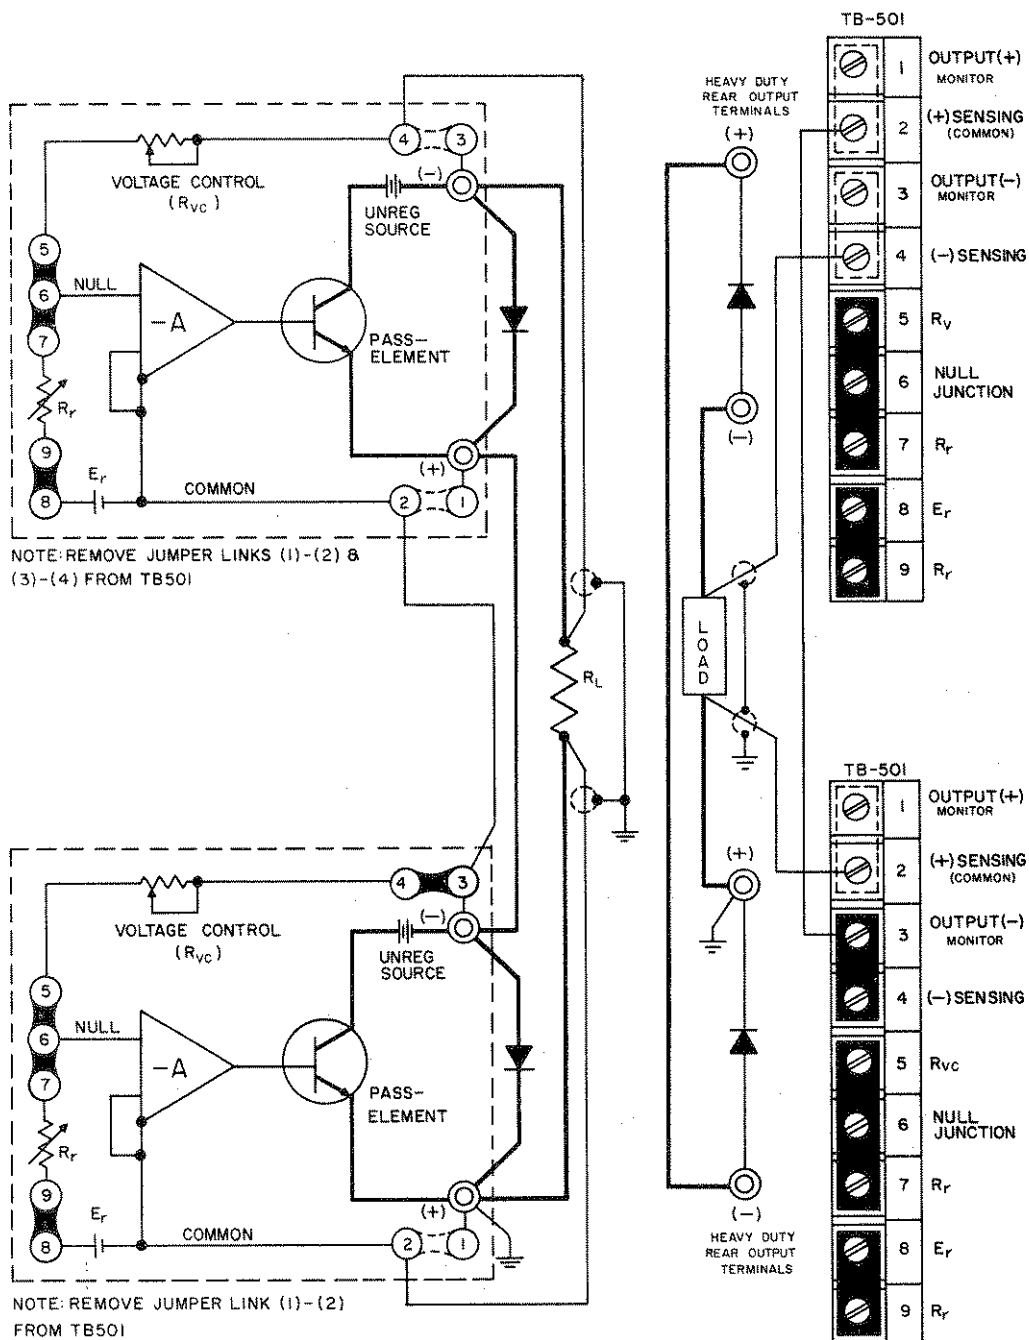
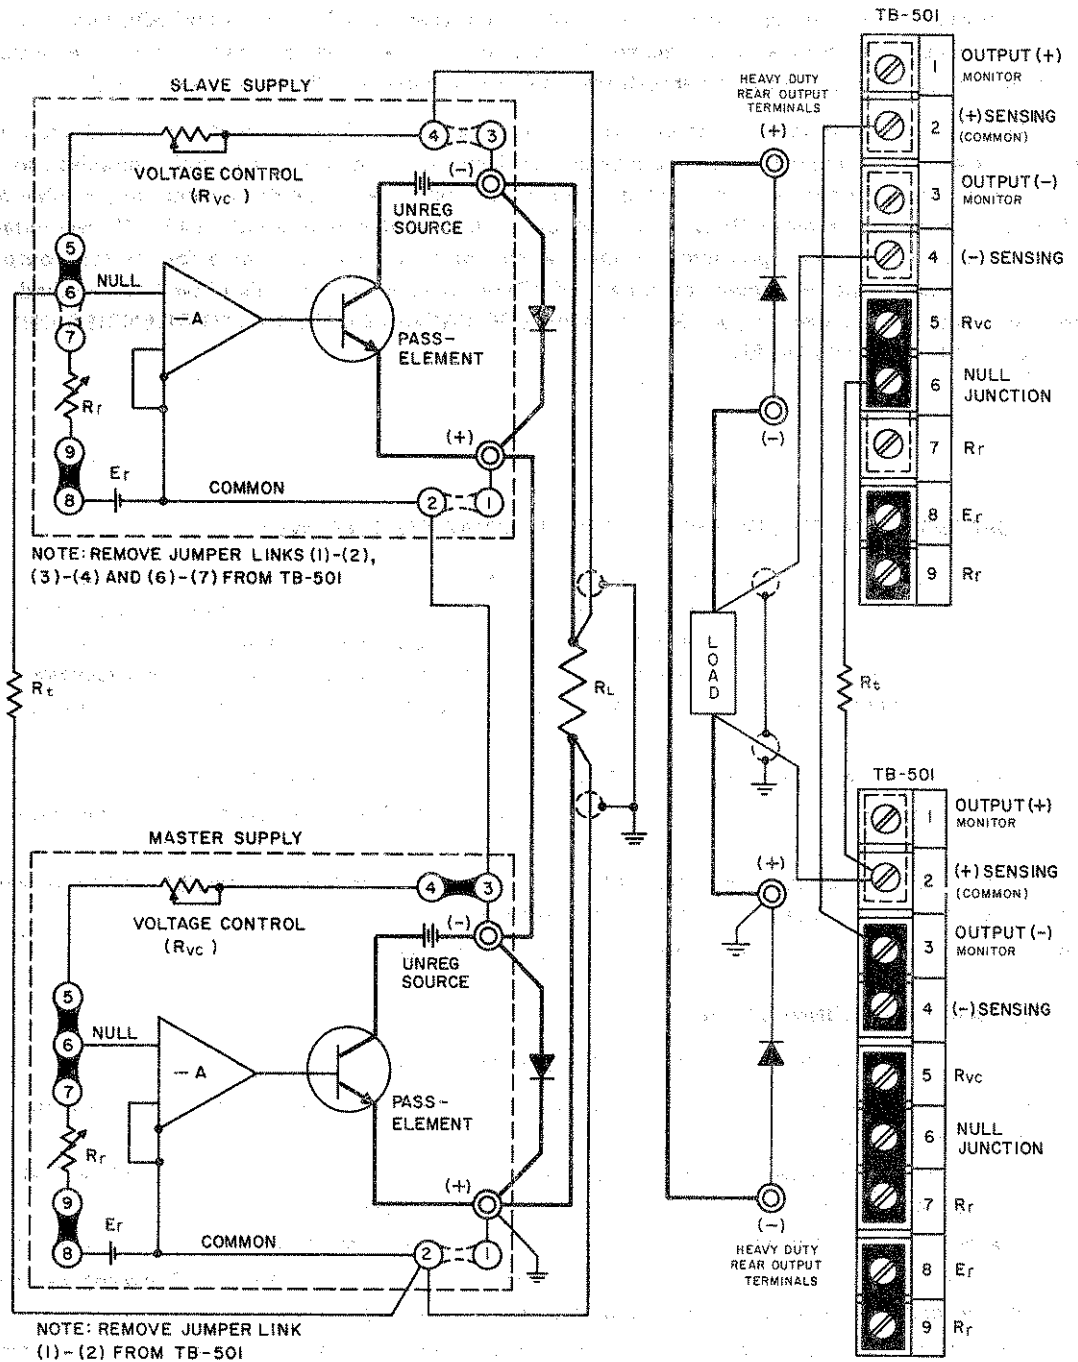

FIG. 3-10 AUTOMATIC SERIES CONNECTION OF KEPKO POWER SUPPLIES
FIG. 3-11 MASTER-SLAVE SERIES CONNECTION OF KEPKO POWER SUPPLIES
3-35 GENERAL. Kepco Power Supplies can be series-connected for increased voltage output, provided the specified limits on voltage to chassis are not exceeded. When series-connected, the supplies should be protected by means of a semiconductor diode across the output terminals of each power supply, as shown in FIG. 3-10. The peak inverse rating of these diodes must be at least as large as the output voltage of the supply to which they are connected. The continuous current rating of the diodes should be at least as great as the largest short-circuit current of the interconnected supplies.
3-36 Two basic series connection methods are generally used, the "Automatic Series Connection", as illustrated in FIG. 3-10, and the "Master-Slave" connection, shown in FIG. 3-11. The basic difference between these two alternate methods lies in the manner of the output control. While in the "Automatic" connection the output of both supplies may be controlled individually, in the "Master-Slave" connection, control is exercised from the "Master" supply alone, while the "Slave" supply follows the master command in a ratio which may be pre-determined by the user. The latter method of series operation is therefore frequently termed "Automatic Tracking".
- Connect load as shown in FIG. 3-10. Keep voltage drop in load wires as low as practical by using heavy gauge wire.
3-38 The "Master-Slave" series connection method is illustrated in FIG. 3-11. As seen from the figure, the reference voltage ( $E_r$ ) of the "Slave" supply is disconnected and its input or null junction is connected to the output of the "Master" supply via the tracking resistor ( $R_t$ ). The "Slave" supply output is thus completely dependent on the "Master" output voltage:
- Connect load as shown in FIG. 3-11. Keep voltage drop in the load wires as low as possible by using heavy gauge wire.
- Remove jumper links as shown (FIG. 3-11) and connect error sensing leads if remote sensing is desired. Sensing leads should be twisted and shielded.
- Select value of the tracking resistor ( $R_t$ ) and connect with shielded wire as shown (FIG. 3-11).